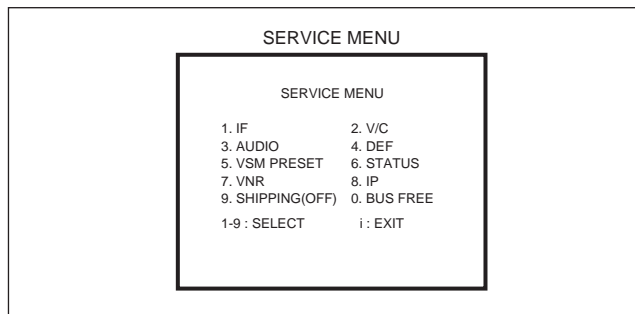

Fig.1
- (5) Setting of SERVICE MENU
- b) The SERVICE MENU screen of Fig. 1 will be displayed.